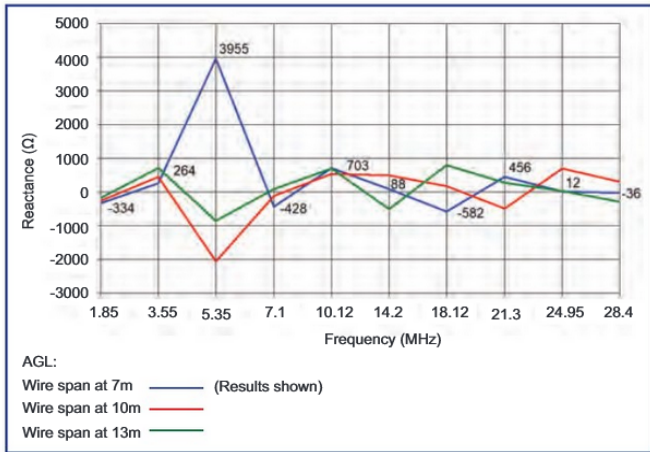

FIGURE 1: The predicted reactance (X) at the Inverted-L antenna's feed point with a horizontal wire span of 20.12m at 7m, 10m and 13m AGL.
The model predicted the antenna as having a reactance (X) that swung between being inductive or capacitive depending on the frequency applied. Figure 1 indicates how X changed from 1.85MHz to 28.4MHz, with the wire span's height modelled at AGLs of 7m (shown as the blue line), 10m (red line) and 13m (green line). To give an indication of the reactance at the feed point, the values when the antenna was at 7m AGL are shown. To match the antenna to the transceiver, the ATU needs to introduce sufficient inductance or capacitance as appropriate to counteract the inverted-L antenna's reactance. This